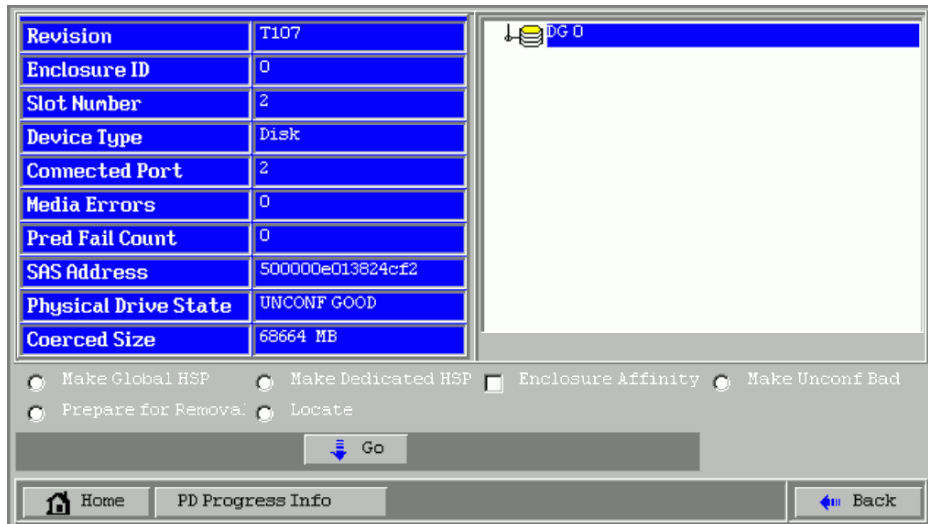

Figure 3-66 WebBIOS: physical properties
3. Click **Go**. The extended properties about the selected disk are displayed, as shown in Figure 3-66.